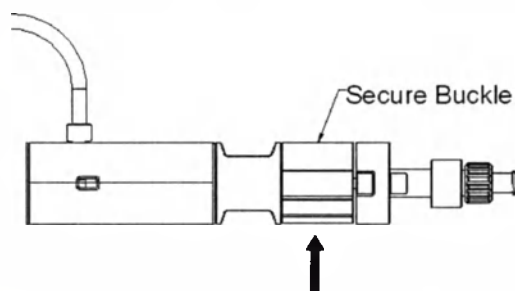

Fig. 7 Remove the Secure Buckle
- ✧ Keep the delivery system stationary. Remove the Secure Buckle from the grip of the delivery system. (Fig. 7)